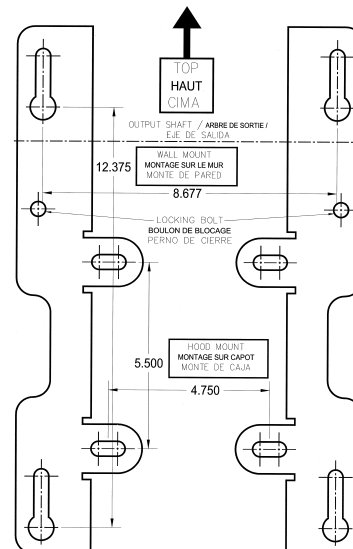

Figure 5 - Opera Mounting Holes
2. Locate the four mounting holes, as shown in Figure 5.